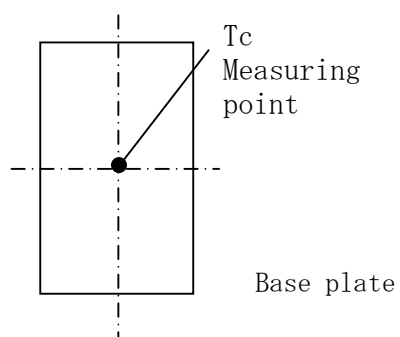

Fig.1.1 Measuring point of aluminum base plate temperature.
- (1) Input : DC 60~160 [V]
(2) Output : Rated output
(3) Aluminum base plate temp. : 75 [°C] (Fig1.1)
(4) Ambient temp. : 25 [°C]